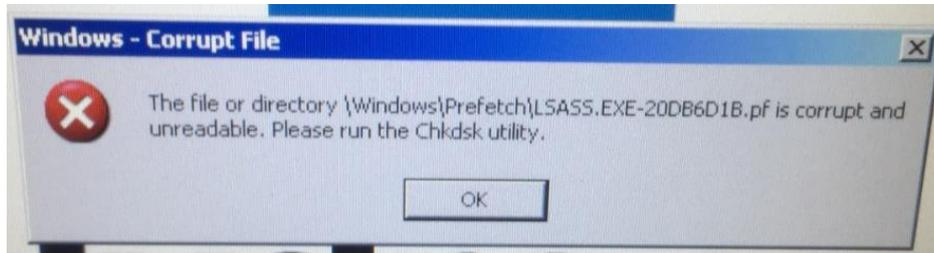

**Figure 8: Reboot the Hydro-Control**
8. Open C:\Program Files\HydroControl VI and double click the “Hydro-Control VI” application file (Figure 8).